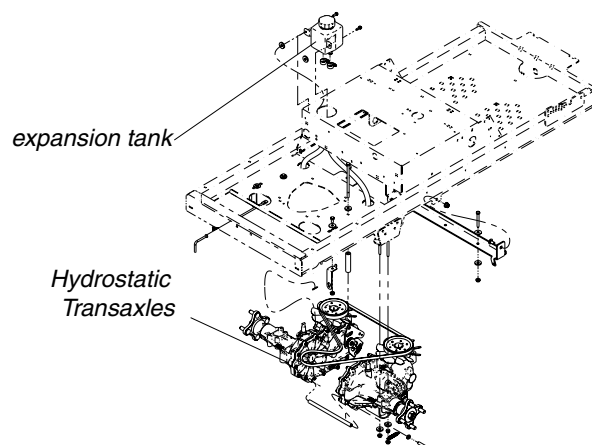

Figure 9
- Your zero turn riding mower is equipped with dual integrated hydrostatic pumps, motors, and planetary gear reduction transaxles. The fluid level in the expansion tank must be maintained at 1/2" to 1" above the bottom of the tank. See Figure 9.